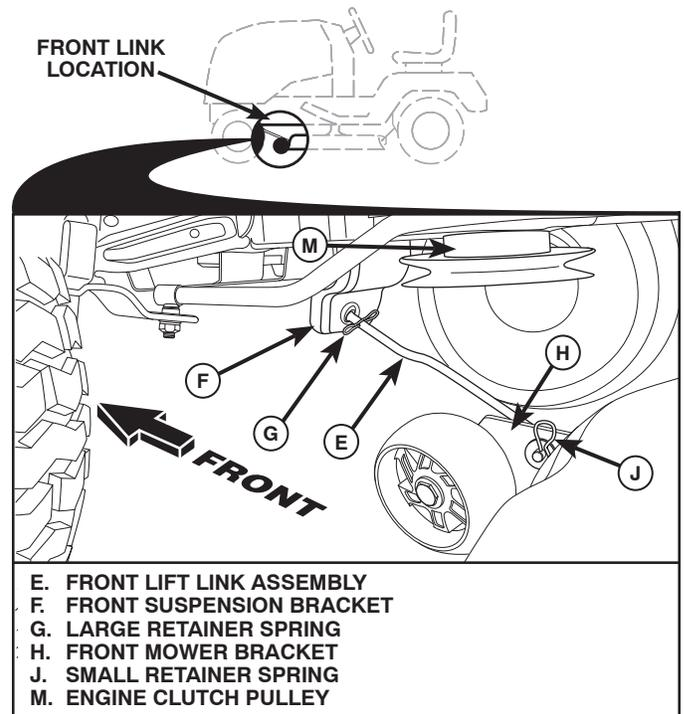

Fig. 30
## 8. ATTACH FRONT LINK (E) (See Fig. 30)
- From front of tractor, insert rod end of front link (E) through front hole in tractor front suspension bracket (F).
- Move to left side of mower and insert large retainer spring (G) through hole in front link (E) behind front suspension bracket (F).
- Insert other end of link (E) into hole in front mower bracket (H) and secure with washer and small retainer spring (J).